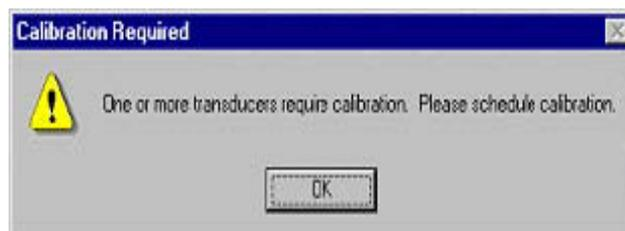

Figure 2. Transducers Require Calibration
- (3) If the calibration of a test cell transducer is due, TCIP will display a Calibration Required screen, similar to Figure 2, until acknowledged by the operator.